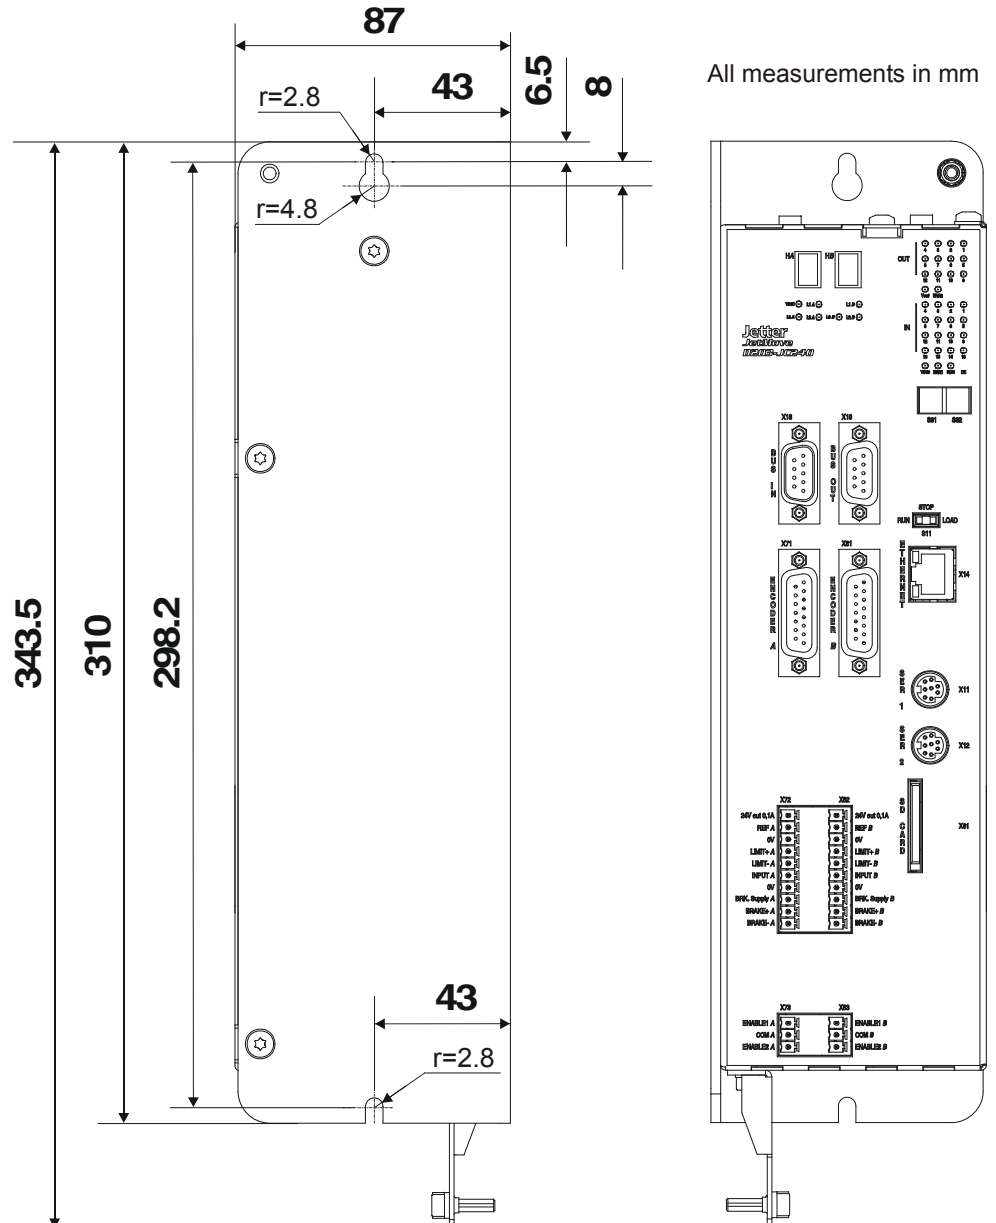

Fig. 4: Rear/front view of the JetMove D203 enclosure with mounting holes
- Mounting screws, 2 pcs.; refer to fig. 4, page 25
-  The only possible mounting position is vertical - see fig. 4, page 25.
-  Please mark on the panel two positions for the fastening screw threads of the JetMove D203 (see fig. 4, page 25).